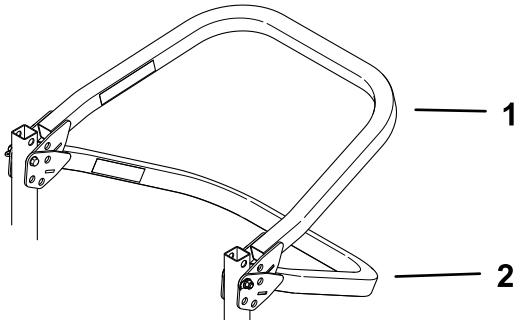

Figure 19
**Note:** There are 2 down positions, as shown in Figure 19.